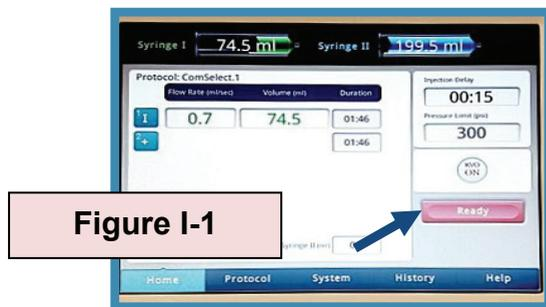
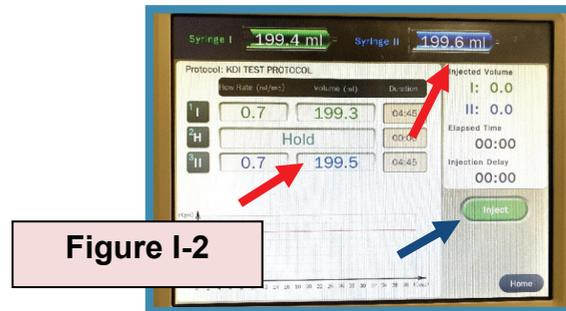

Figure I-1
Figure I-2
Note: Treatment volume settings cannot exceed the volumes displayed on the top of the monitor screen. (Figure I-2, red arrows)
- To start procedure, press *{Ready}* (Figure I-1) followed by *{Inject}* on monitor (Figure I-2, blue arrow)